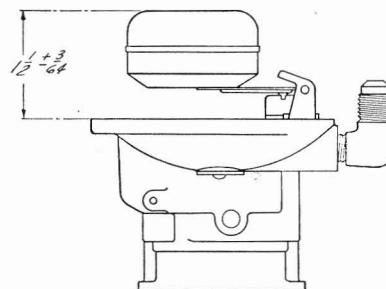

Figure 6
22. Hold cover assembly upside down and observe position of float with relation to the cover. To obtain correct fuel level, measurements should be as shown in Figure 6.